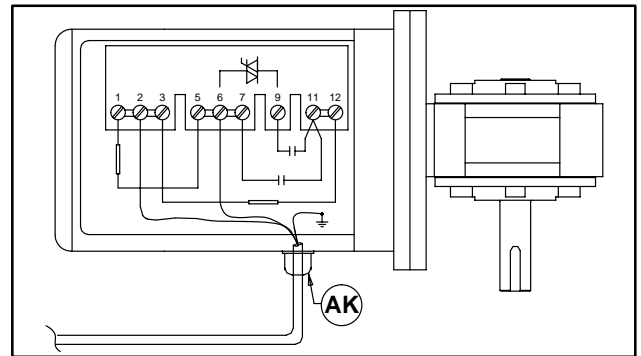

Figure 41
- b. Record wire colors on terminals 2, 6 and ground ( $\perp$ ) (Figure 41). Loosen terminals 2, 6 and ground and remove wires.
- c. Loosen cord grip (AK of Figure 41) and remove cord.